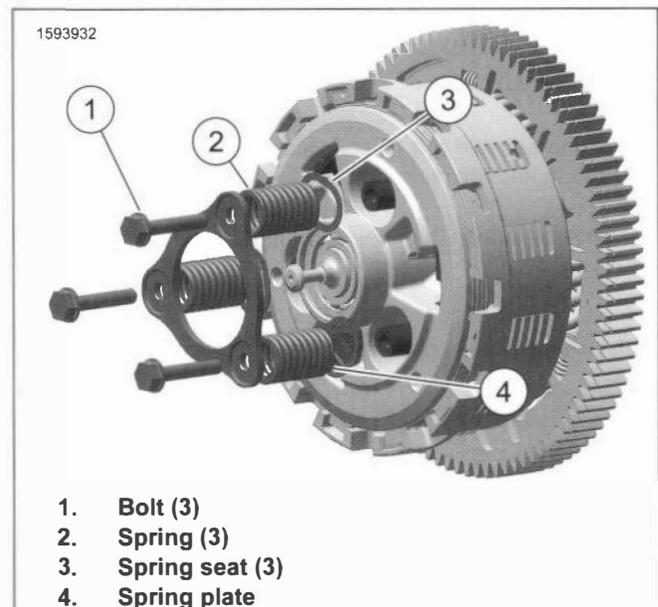
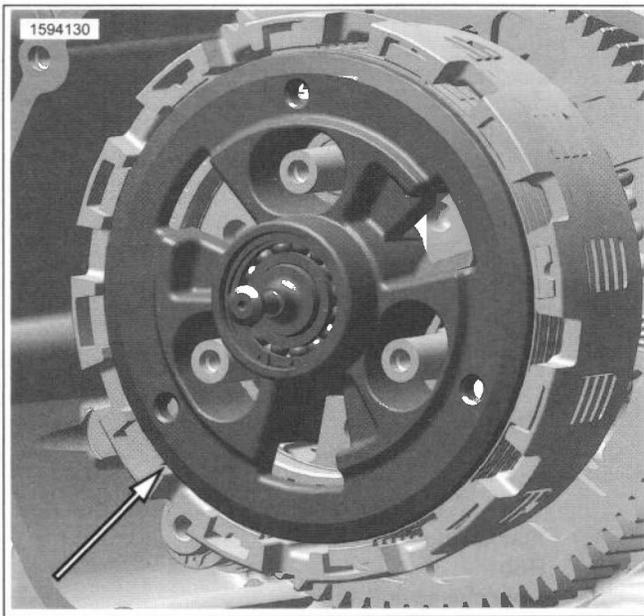

Figure 5-22. Spring Plate
Figure 5-23. Pressure Plate
1. See Figure 5-22. Alternately loosen three bolts (1).
2. Remove bolts, spring plate (4), springs (2) and spring seats (3).
3. See Figure 5-23. Remove pressure plate assembly.